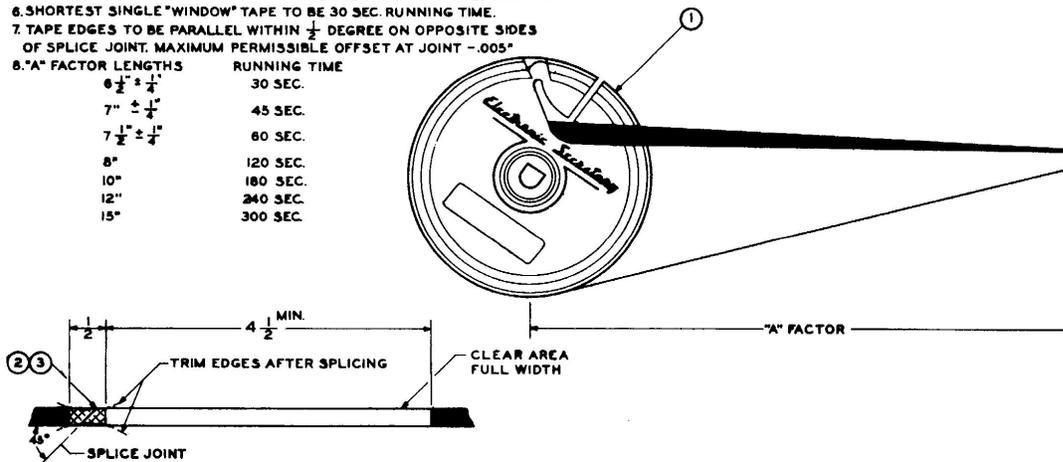
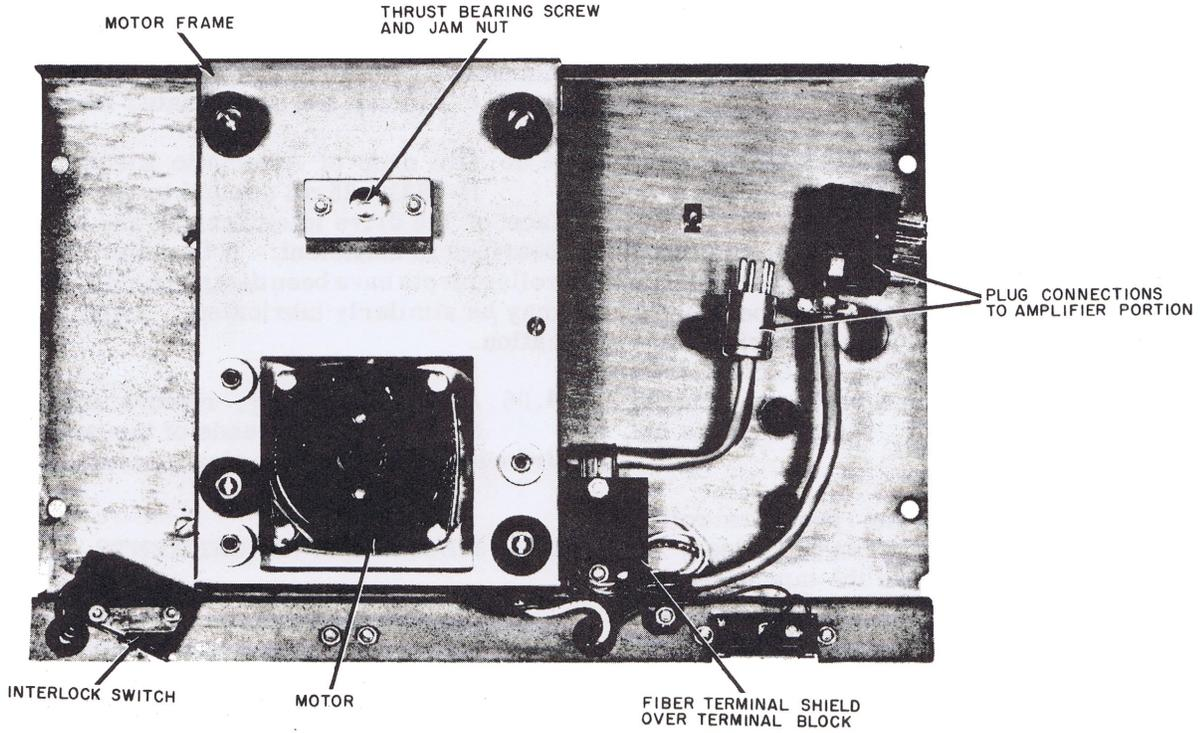
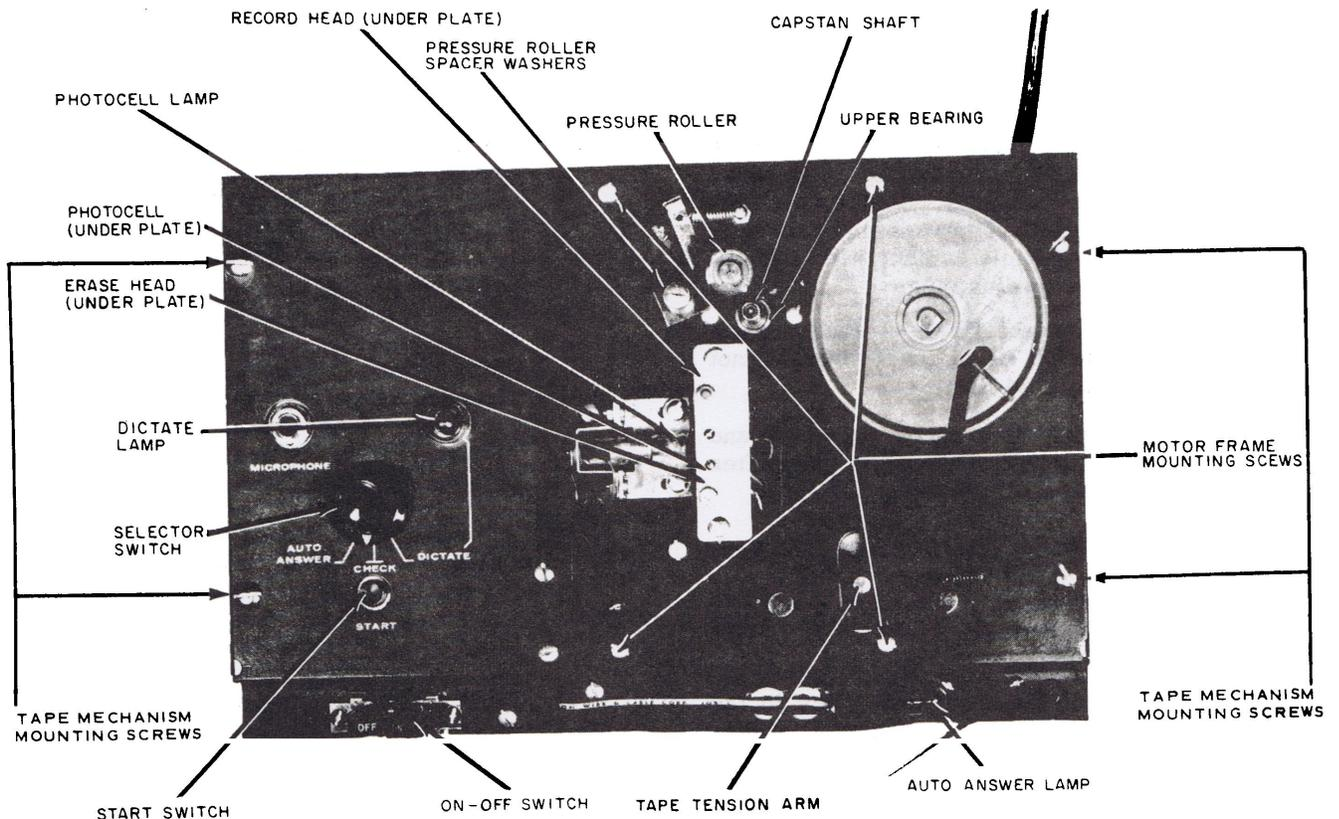

Figure 2. Tape Slack.
Figure 3. Bottom of Tape Mechanism.
Figure 5. Top of Tape Mechanism.
2.04 To separate the tape mechanism from the amplifier assembly, refer to figure 5 and:
- (1) Remove the two nuts holding the fiber terminal shield on the underside of the tape mechanism (refer to figure 3).
- (2) Remove the shield, and loosen the terminal screws fastening the two motor leads.
- (3) With the tape mechanism in the operating position, locate and remove the four screws holding the motor frame to the tape deck (refer to figure 5).
- (4) Hold the pressure roller away from the capstan shaft and lift the tape deck up off the motor frame.
- (5) The flywheel may be lifted upward and tipped slightly to remove from motor frame.
3.03 When in the mechanism, the tape should move freely around the pillars and heads. Assure that the tape does not bind in the cartridge and that there is sufficient tape slack consistent with running time (refer to figure 2). Tape tension arm (refer to figure 5) should move freely.
5.01 Assure that the capstan shaft is perpendicular to motorboard surface. Should this require adjustment, refer to figures 3 and 4 and proceed as follows:
5.02 Assure that the pressure roller contacts the capstan shaft surface evenly. See figure 5. Move roller slightly away from capstan surface to check this alignment. Form pressure roller sup-
5.03 Refer to figures 3, 4, and 5, and proceed as follows to adjust flywheel thrust bearing:
5.04 The head and photocell are adjusted as follows (see figure 5):